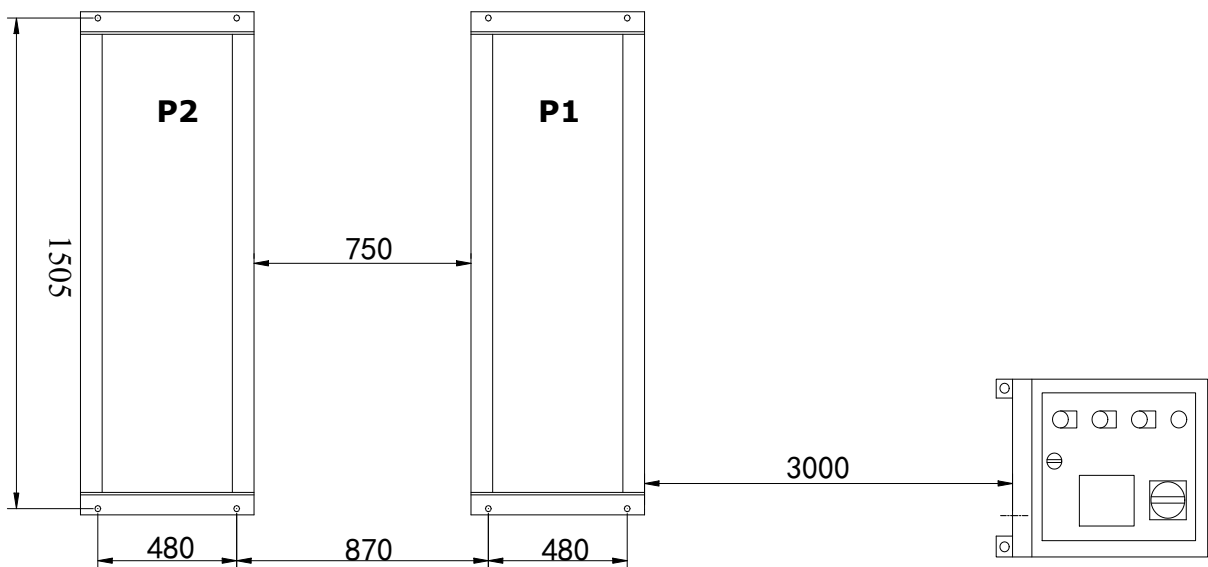

**Fig. 8**
4. Check the parts of the parts bag according to the parts bag list (**See Fig.8**).